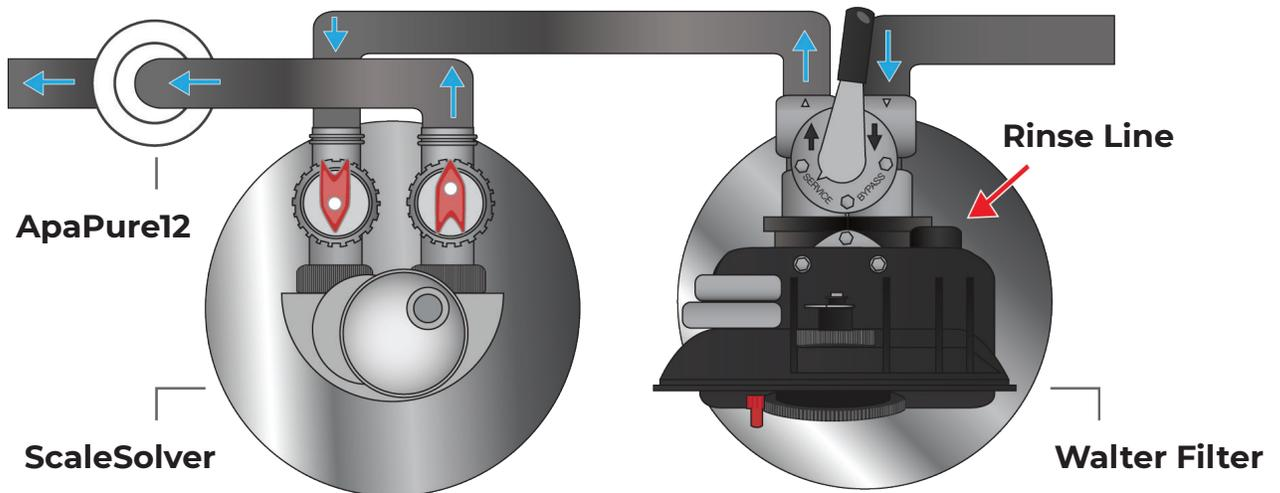

Figure 9 - Top View of Ultimate Protection Package 1" inlet and outlets
6. After the manual rinse cycle has been completed, turn the main dial on the filter unit to the **IN SERVICE** position [**See Page 16, Figure 9**]. Make sure the control lever is fully in the **IN SERVICE** position. Now, put the ScaleSolver outlet in the **IN SERVICE** position. Water will now be flowing through the whole Elite PowerPac to feed the house. **Remember to set the timer for self-cleaning to the current time of day.**